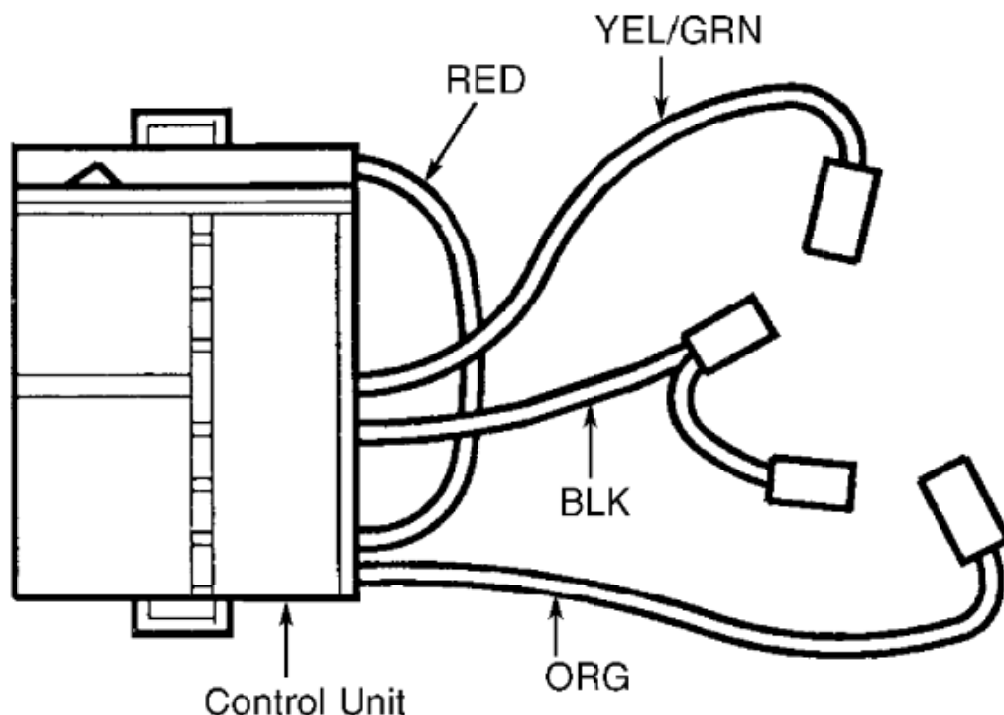

Fig. 9: Attaching Jumper Wire Set (9 813 181) To Control Unit
1) Disconnect control unit connector. Connect Red jumper wire between control unit connector terminals No. 1 and 11 (voltage feed to vacuum pump and regulator.) Connect Black wire to control unit connector terminal No. 10 (ground). See Fig. 9.